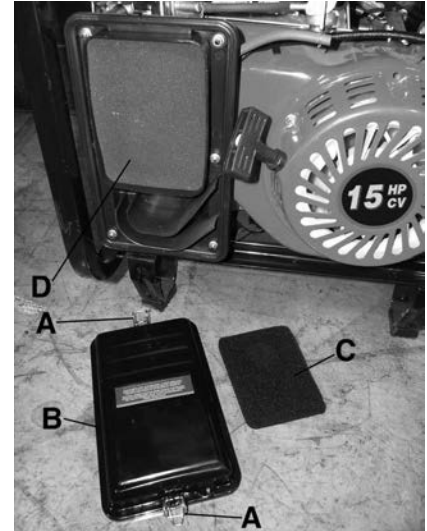

Figure 3
- 1) Snap the top and bottom clips (A) Fig.3 backwards and remove the air cleaner cover (B).